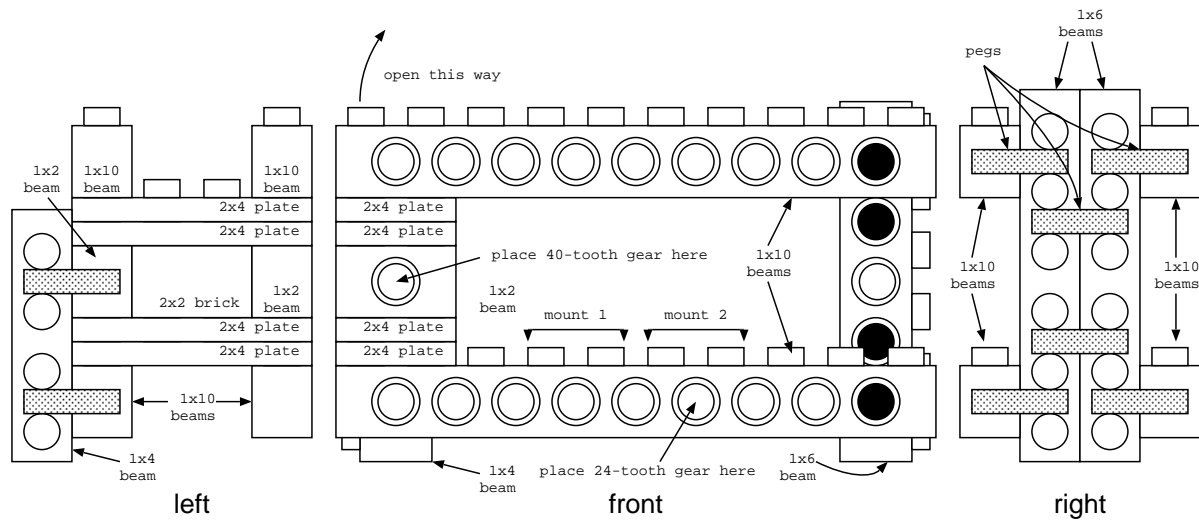

Figure 4.8: Jig for motor assembly
- (a) Construct the jig shown in Figure 4.8. It requires 4 1×10 beams, 2 1×6 beams, 1 1×4 beam, 2 1×2 beams, 1 2×2 brick, 4 2×4 plates, 10 black connectors, 2 axle connectors, 1 40-tooth gear, and 1 24-tooth gear. If you are left-handed, you might find it more useful to construct the mirror image of the jig.